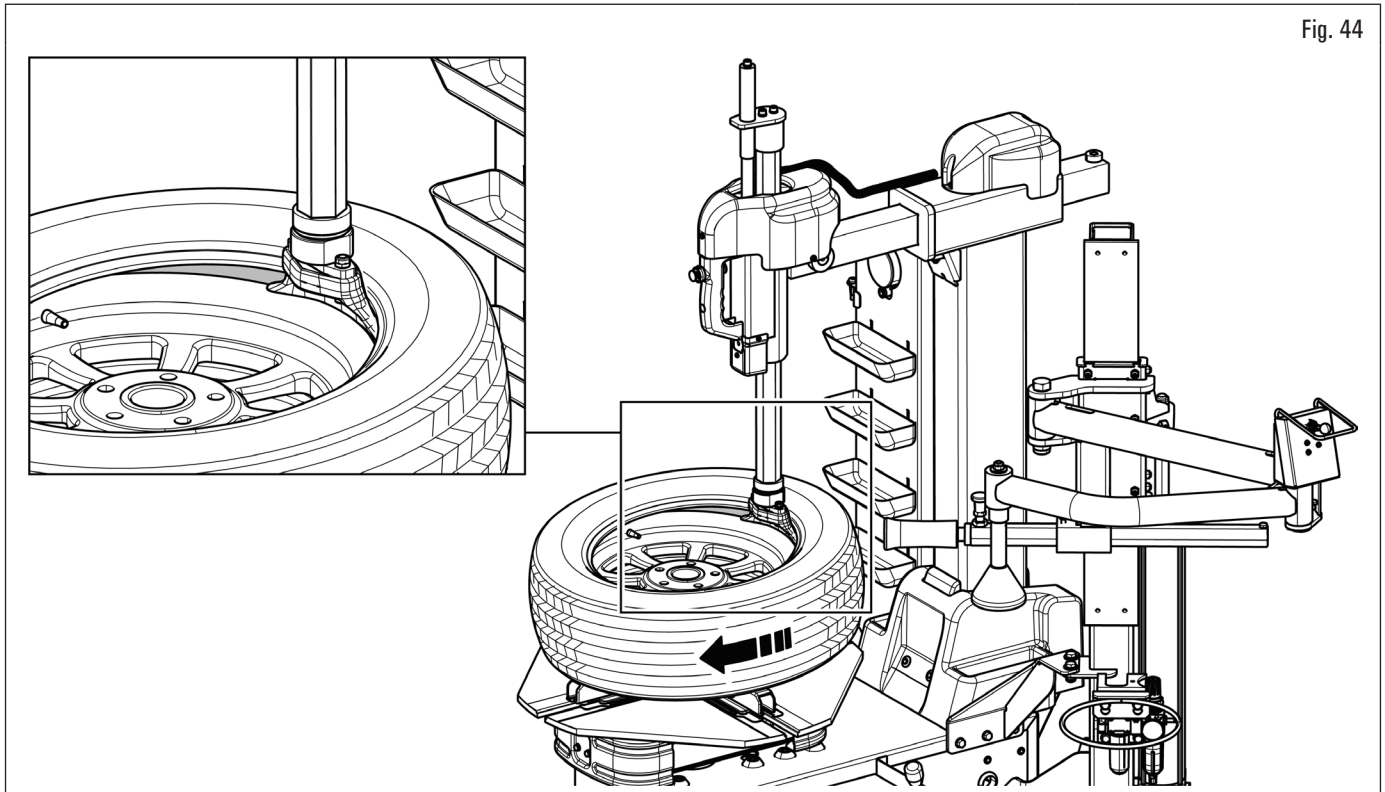

Fig. 44
6. repeat the same operations for tyre upper bead, as shown in Fig. 44;